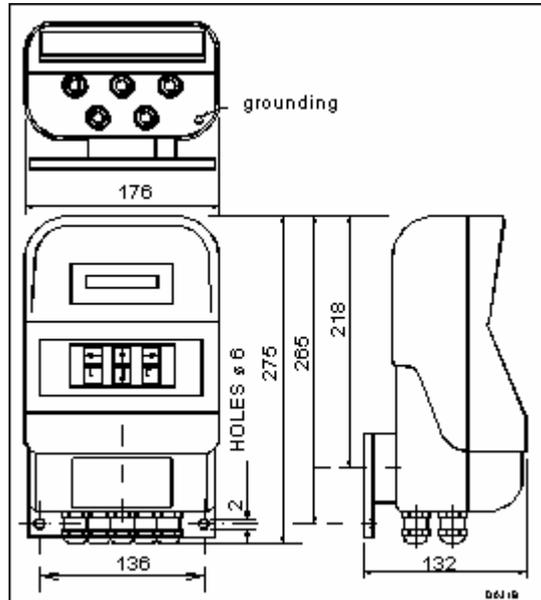

Fig. 2
12.1.B2 - The converter can be installed on the wall or on the target rod. For this reason it comes supplied with a plate with two 6 mm holes on the rear (see Fig. 2).